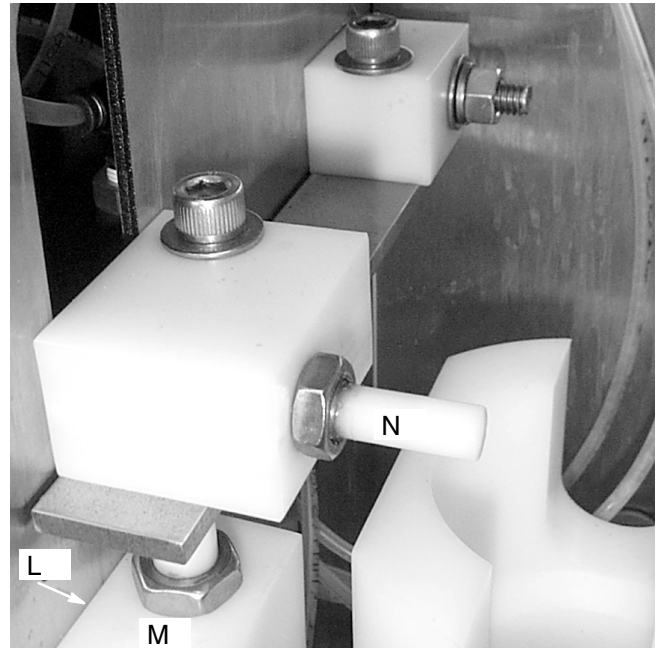

Fig. 8
4. Loosen both screws (L) on the side of the box that hold the cylinder block (M). See Fig. 8.
5. Raise the cylinder (M) until the pin (N) opens the trigger fully. See Fig. 8.
6. Tighten both screws (L) at the desired location for the cylinder block (M).